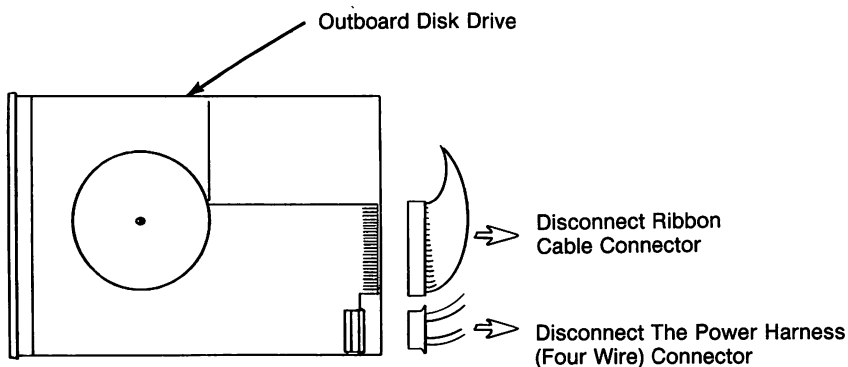

Figure 4-17 Right side view. Disconnecting outboard disk drive cables
1. Position your unit with the now exposed right (disk drive) side facing you. Unplug the two cable connections, as shown in Figure 4-17, from the "outboard" disk drive.